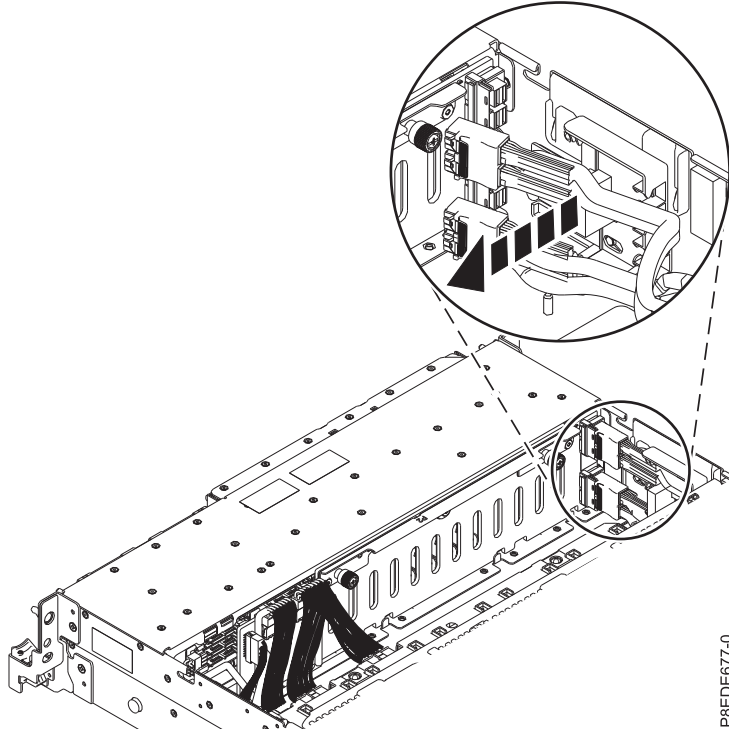

Figure 44. Unseating the SAS cables
4. Unseat the front SAS cables from the cable guide on the side of the system chassis. See Figure 44 on page 53.